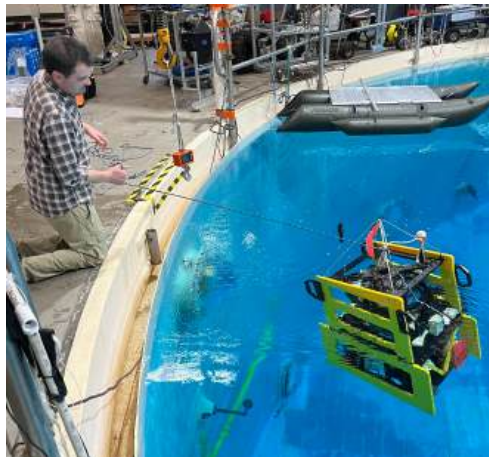

Figure 3.12: With the Drifter in the water add ballast until the platform begins to sink.
22. Add lead or steel weights (or weights with known mass and density) to the top of the Drifter until it starts to submerge (Figure 3.12).